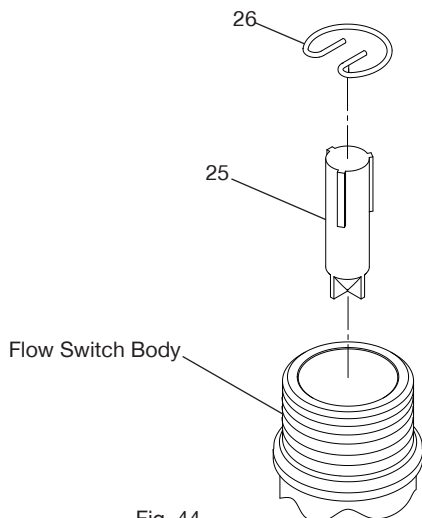

Fig. 44
- Remove clip (item 26) using needle nose pliers (Fig. 44).
- Remove magnetic float (item 25) using needle nose pliers (Fig. 44).